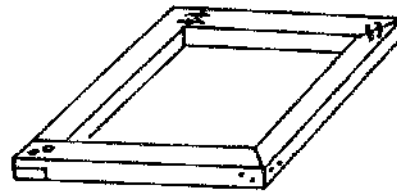

FIGURE 1. MAKING THE FRAME OF THE SILK SCREEN. DIFFERENT JOINT CONSTRUCTIONS ARE SHOWN AT EACH CORNER; ANY ONE OF THESE MAY BE USED FOR THE JOINTS OF THE FRAME.
1. Build a frame (see Figures 1 and 2), using **1.9cm x 5cm (3/4" x 2")** plywood or other wood. The frame should be big **enough** for the largest prints to be made. Average inside frame dimensions would be **38.1cm x 50.8cm (18" x 24")**. Make sure that the corners are square and the frame lies flat against a flat baseboard or table top. The baseboard can also be made of **1.9cm (3/4")** plywood. A few coats of shellac on the wooden frame wig make it longer lasting and less apt to warp.